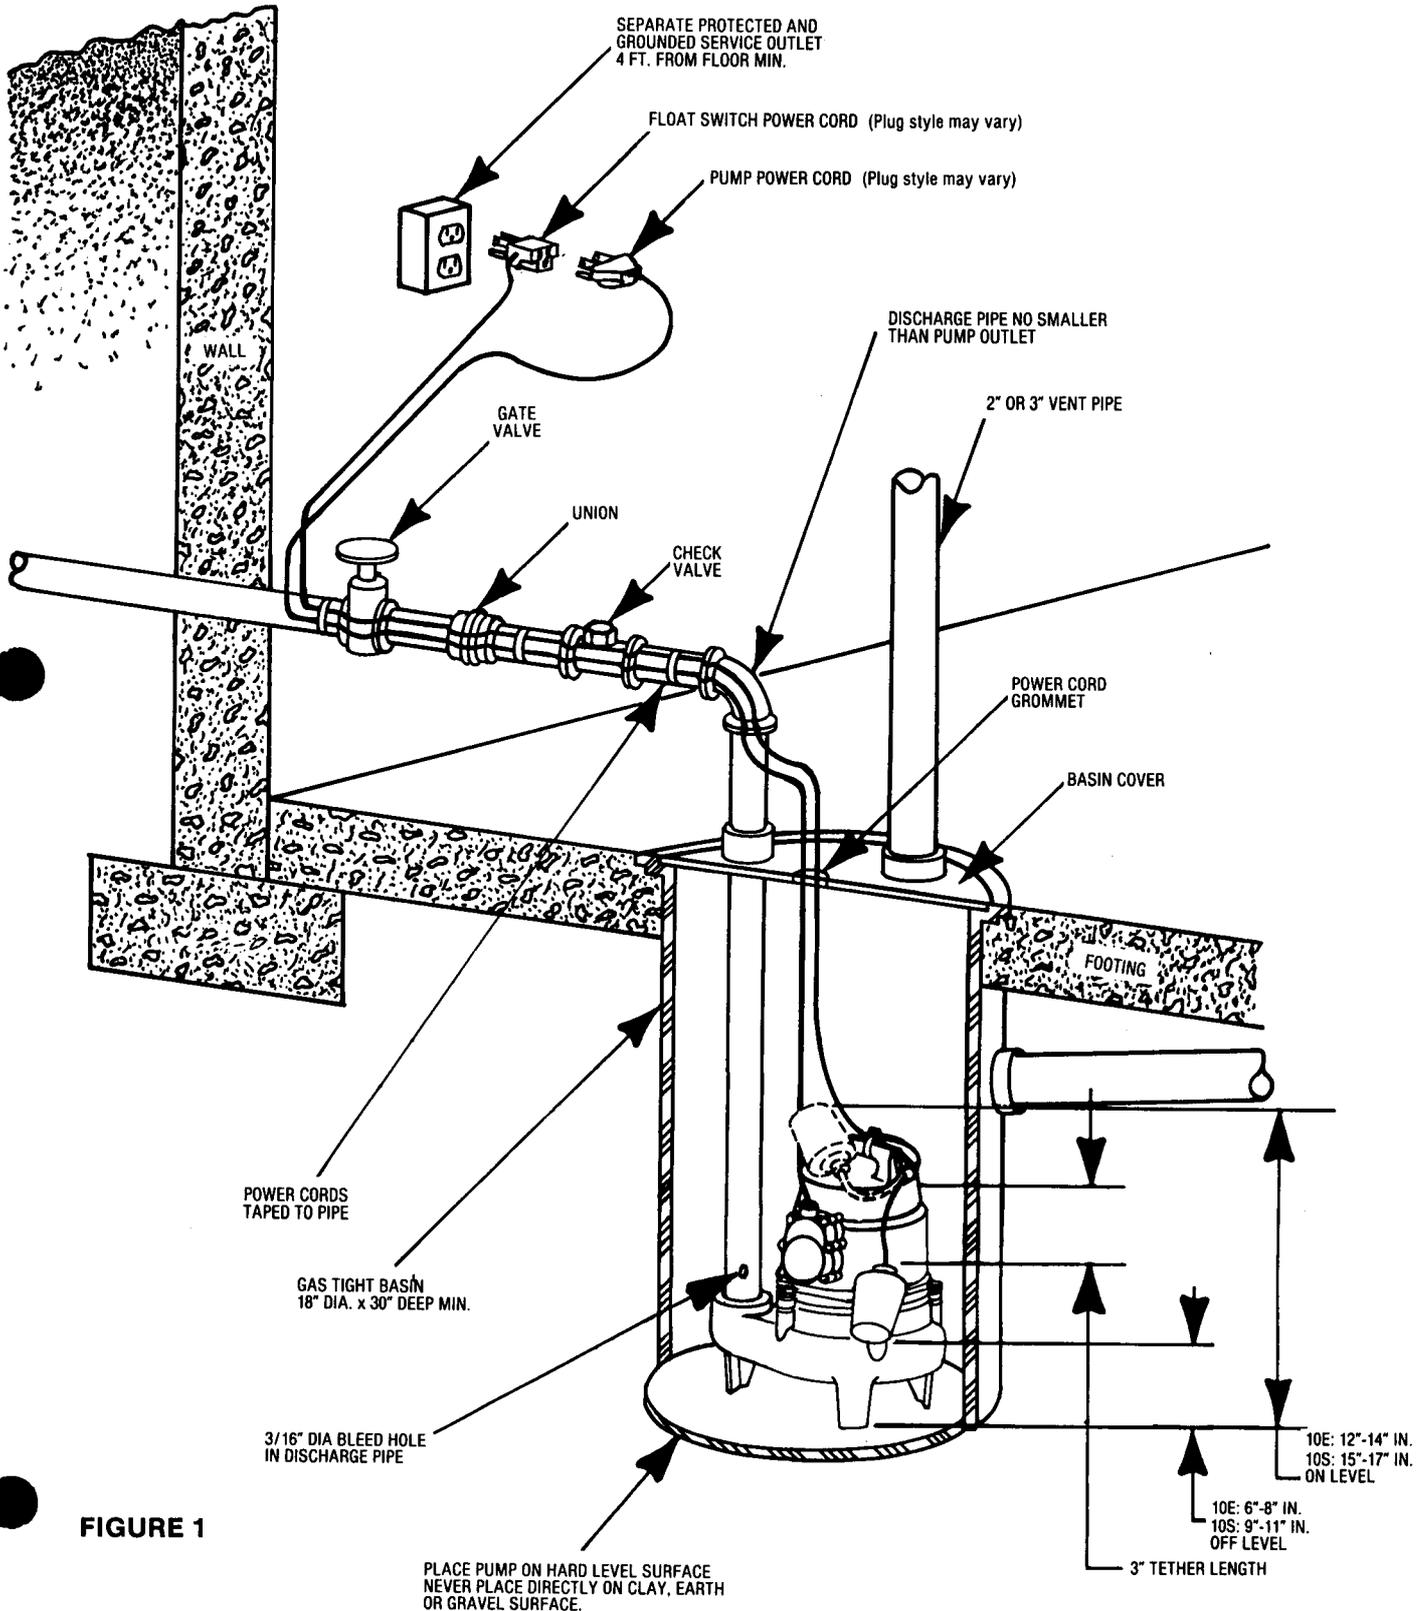

FIGURE 1
- Attach cord clamp to pump cover as shown in FIGURE 1. The clamp must be positioned as shown to allow free operation of float. Be sure to locate pump and switch power cords away from switch float.